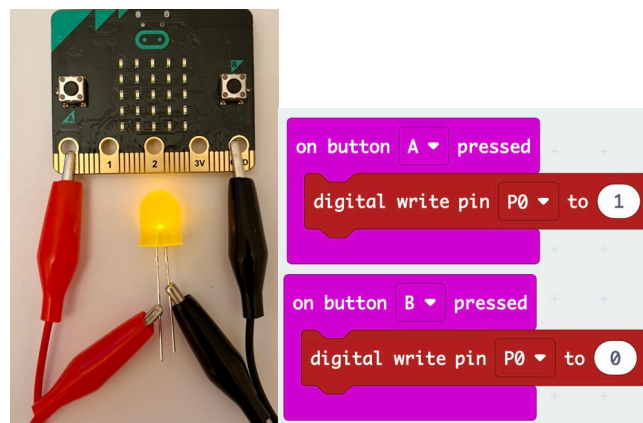

Figure 1: Connecting a LED to micro:bit and controlling it with buttons A and B
- Figure 1 shows how a LED can be connected to a micro:bit, together with a code to turn it on and off using buttons A and B, respectively. Note that the cathode (shorter leg) is connected to the ground (GND).
The code in figure 1 can be modified to switch the LED on and off using only a single button. To do this, the micro:bit can record the current state of the LED in a variable.